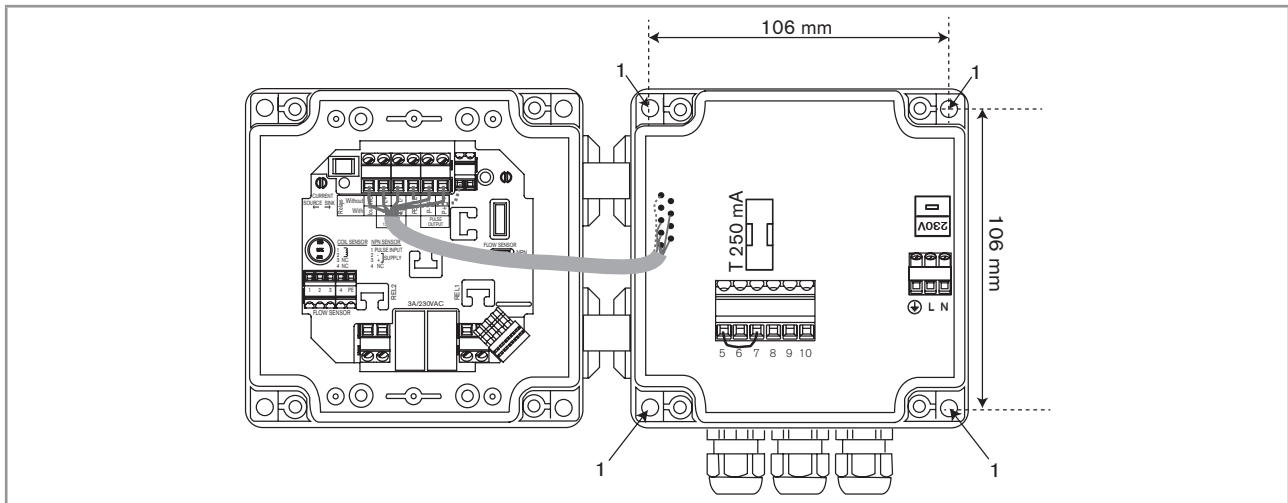

Fig. 13: Installation of a wall-mounted version
- Secure the housing to the support respecting the dimensions indicated in Fig. 13.